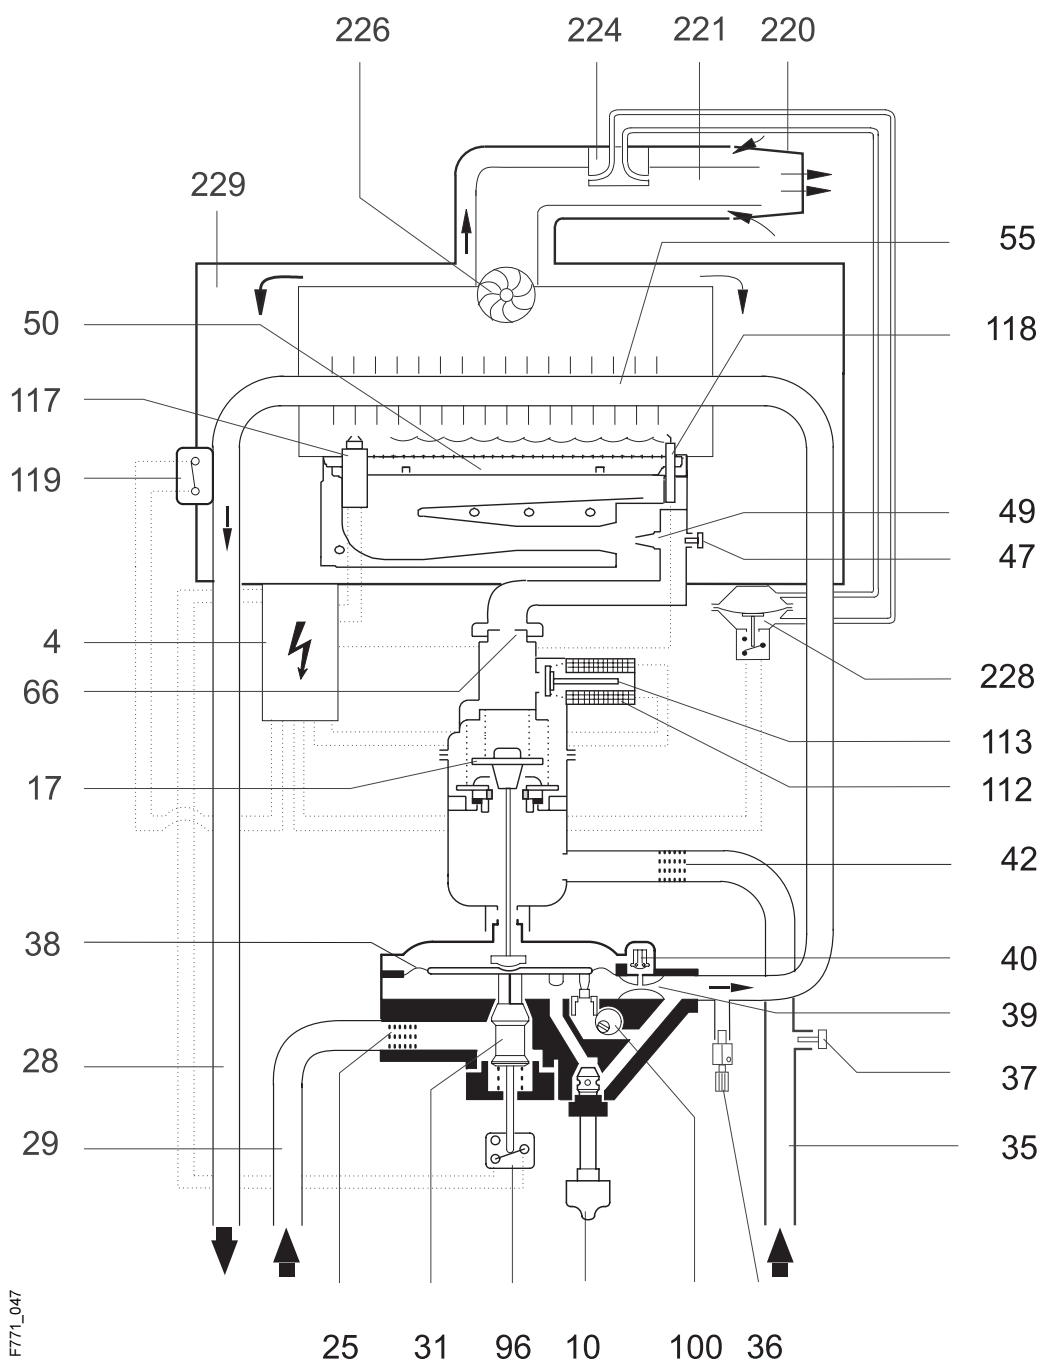

Fig. 1
2.4 PRINCIPAL APPLIANCE COMPONENTS. See Fig. 1.